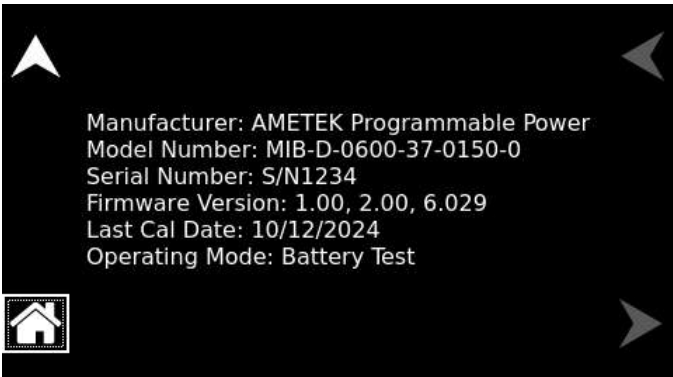

*Figure 13-60. System Details*
**System Details** Displays information about the user's device, including the Manufacturer, Model Number, Serial Number, Last Calibration Date, and Operating Mode. Refer to Figure 13-60.